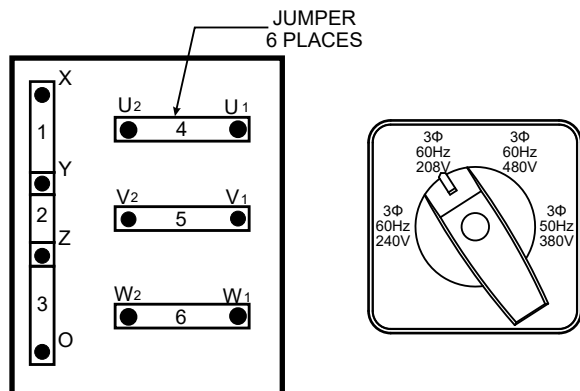

Figure 18. 3-Phase 208/120-Volt Configuration
1. Jumper the **voltage change-over board** for **240-volt operation** as shown in Figure 18.
2. Place the **Voltage Selector switch** in the **208-volt position** as shown in Figure 18.